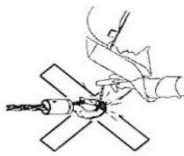

Fig. 2
8. Avoid welding work close to the elements of the hoist. **(fig 2)**